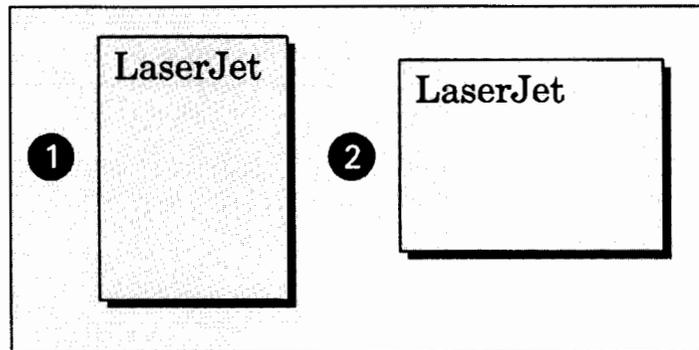

Figure 2-6. Page Orientation
Orientation refers to the direction of the print on a page. Printing along the short edge (width) of a page is **portrait** orientation (see ① in figure 2-6), and printing along the long edge (length) of a page is **landscape** orientation (see ② in figure 2-6).
Figure 2-6 shows pages printed in portrait and landscape orientation.